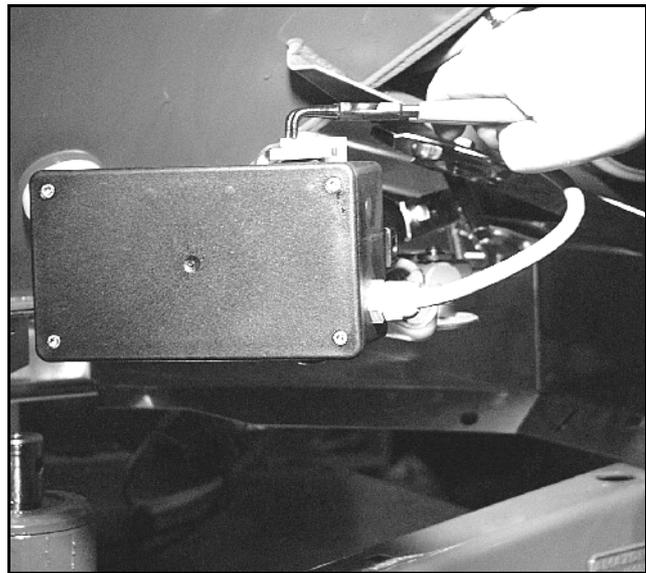

Fig. 5
- Remove the two circlips (Fig. 5/1) by using circlip pliers (Fig. 5/2).